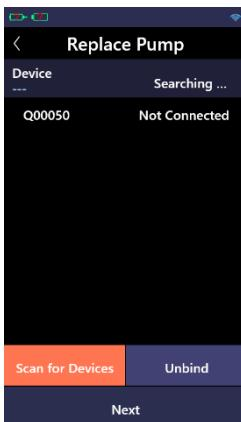

Figure A.9.4
(4) Connect. Click "Scan for Devices", the Bluetooth will automatically start to search for available devices, and a list of devices will be displayed (as shown in Figure A.9.4).